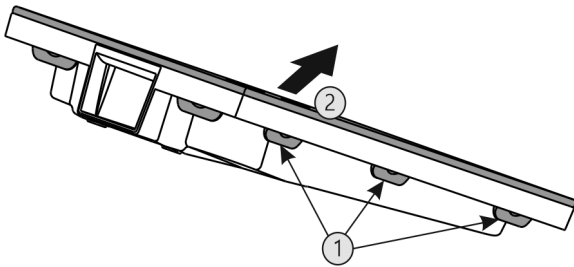

Fig. 72
- ▶ Press all lugs Fig. 72 (1) in succession and remove the lid Fig. 72 (2).